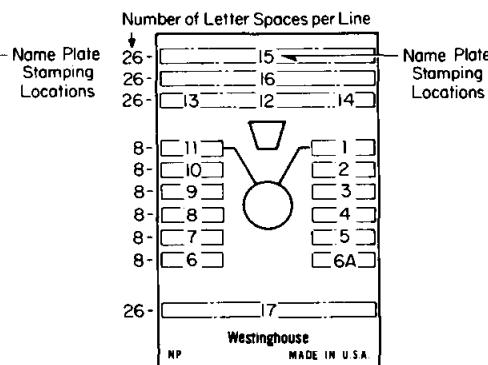

Figure 2
- NP 502A054H02 (Fixed Handle with Target) Fig. 2
Example: Select Figure 2—Order